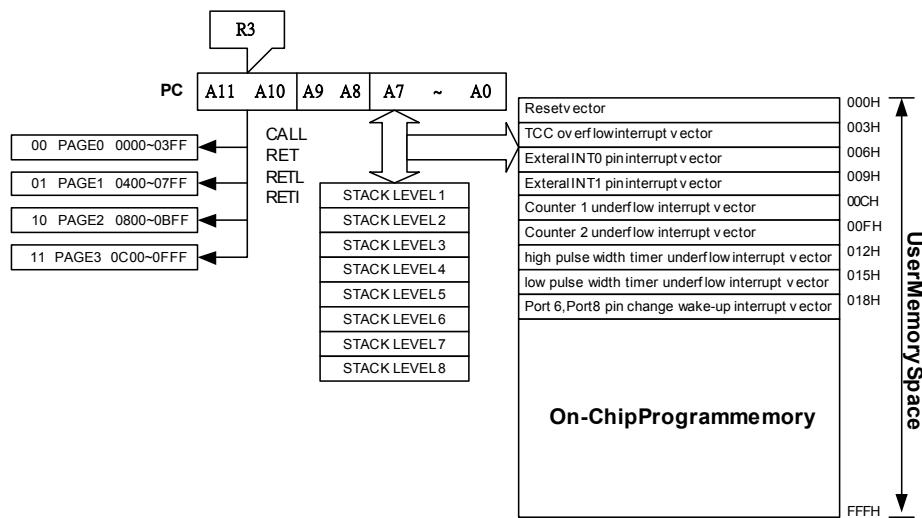

Fig. 3 Program Counter Organization
- \* The structure is depicted in Fig. 3